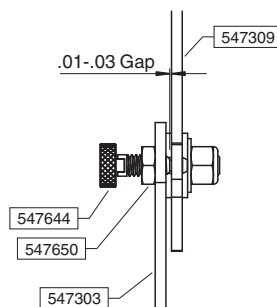

Figure 4.2 Shield lock gap adjustment
2. Using one retractable plunger (2x #547644) per side, insert jam nuts (2x #547650) onto the plunger threads then install into threaded hole on shield side plates. Apply Included Loctite 243 (#547659) to the threads of the plungers. Adjust the depth such that the thread end of each plunger (the nose when the plunger is retracted) leaves a .03"- .05" gap from the shield sides as shown. Tighten jam nuts to 30in-lb to secure in place. Refer to Figure 4.2.